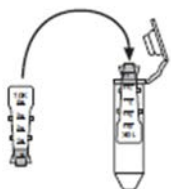

Figure 2. Invert the filter into a clean collection tube.
- 37 Invert the 50 kDa filter over to a new collection tube (see Figure 2).